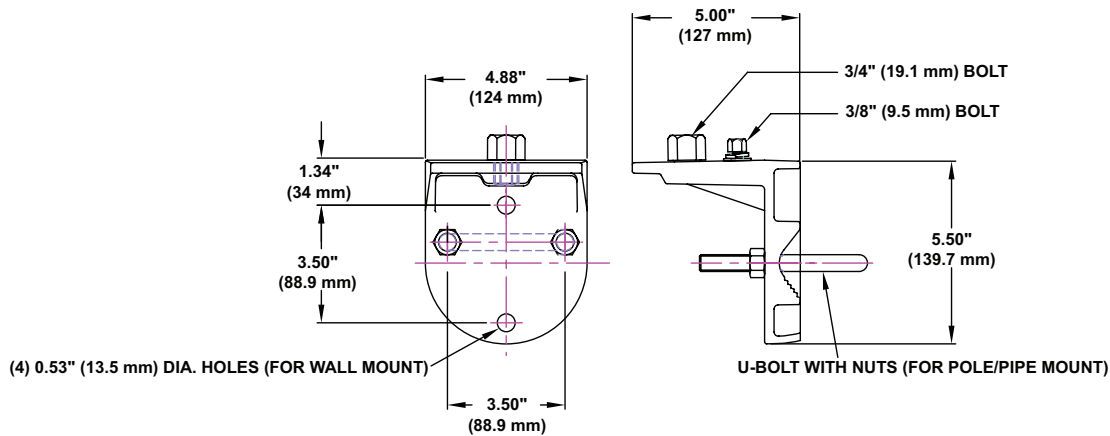

Figure 6: Pipe/Wall Mount Bracket (P/N: G-AM-8-WB)
3. Mount the pipe/wall mount bracket to a flat surface with user-supplied hardware or clamp to a pipe or pole [1 inch (25.4 mm) to 2-1/2 inch (63.5 mm)] with U-Bolt and nuts (supplied). Tighten nuts to secure in position. See Figures 6 & 7.